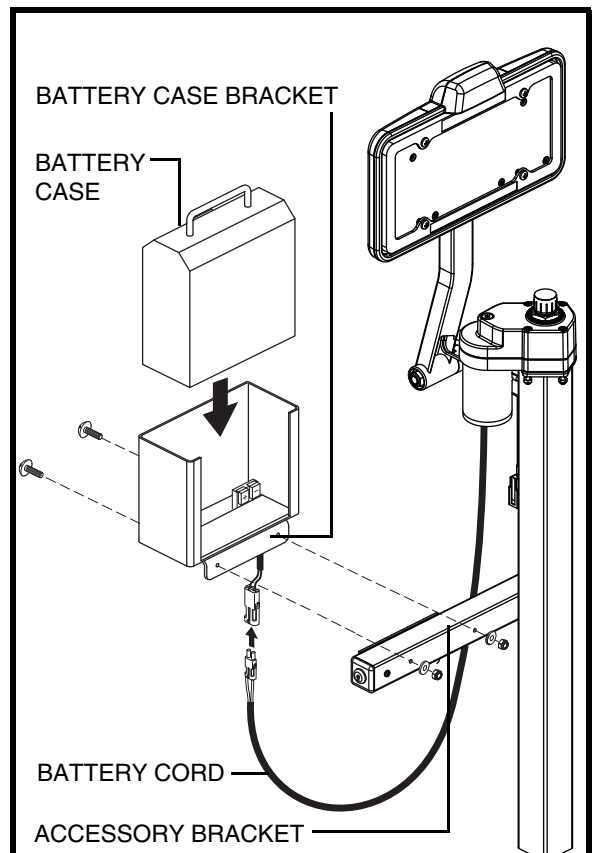

Figure 10. Onboard Battery Installation
1. Align the mounting holes in the battery case bracket with those in the accessory bracket located under the key switch tube. **See figure 10.**
2. Secure the battery case to the accessory bracket with the supplied hardware. **See figure 10.**
4. Plug the battery cord on the bottom of the battery case into the mating connector running from the motor. **See figure 10.**